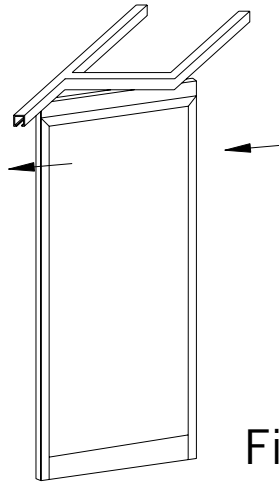

Fig. 17
12. Sliding the panels (Fig. 17):